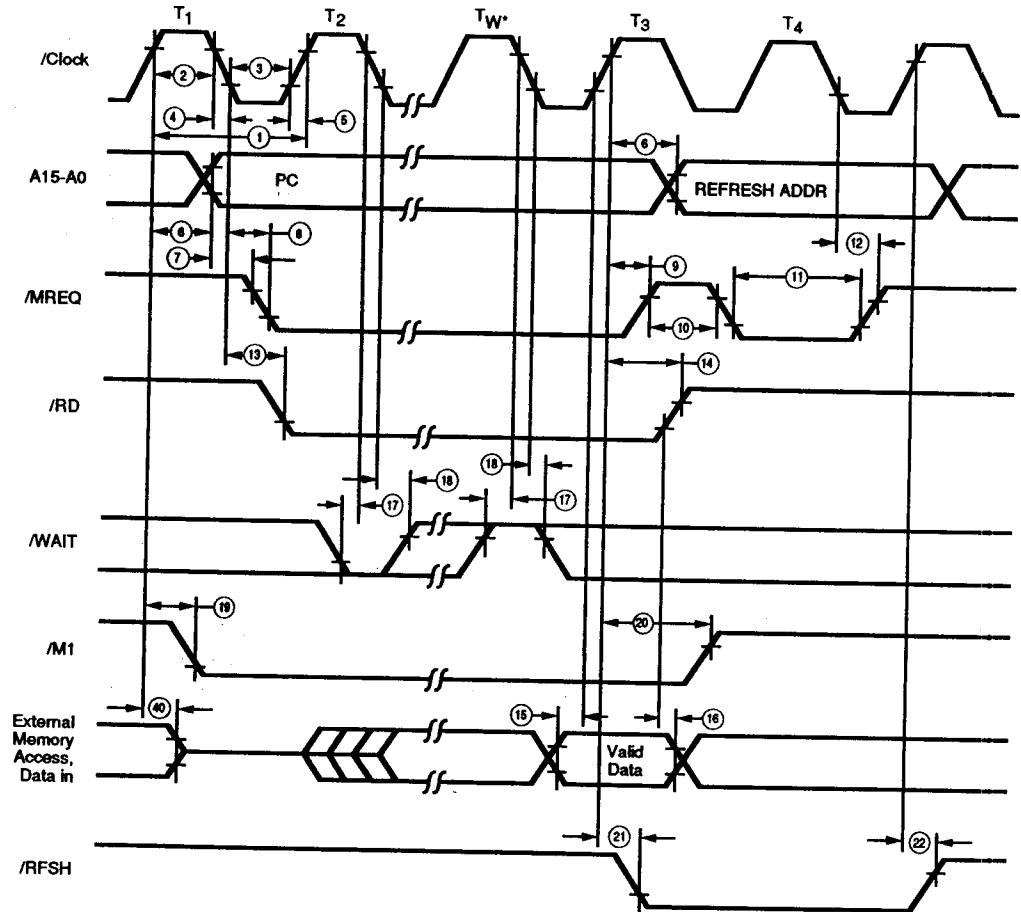

Figure 41. Instruction Op-code Fetch
Parameters referenced in Figure 41 through Figure 48 appear in Table A.
Instruction Op-code Fetch. The CPU places the contents of the Program Counter (PC) on the address bus at the start of the cycle (Figure 41). Approximately one-half clock cycle later, /MREQ goes active. When active, /RD indicates that the memory data can be enabled onto the CPU data bus.